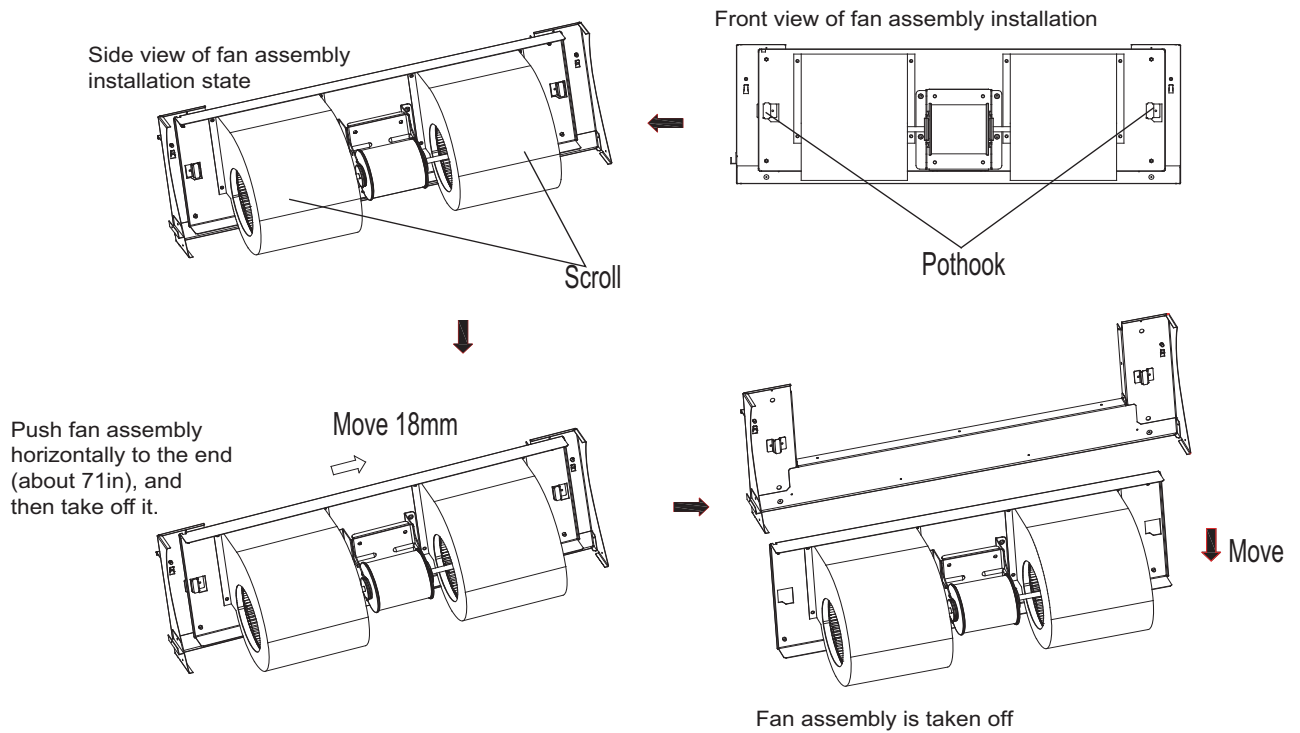

Fig. 33 —Fan Disassembly 036-054
2. Remove all 4 bolts from the fan assembly (see Fig. 33).
3. Horizontally push the fan assembly until it cannot not move any further, and then lift up slightly and take down to remove (see Fig. 33).